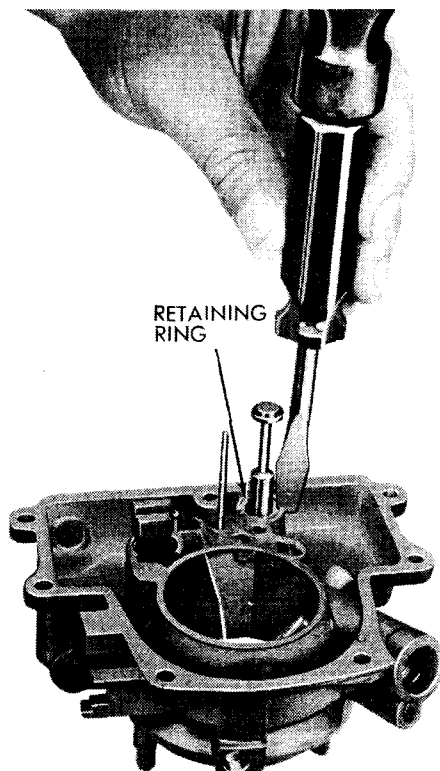

Fig. 19—Staking Vacuum Piston Retaining Washer
(1) Before installing the vacuum piston assembly in bowl cover, be sure and remove all staking from the retainer cavity. Install the spring and piston in the vacuum cylinder, seat the retainer and stake lightly with a suitable tool (Fig. 19).